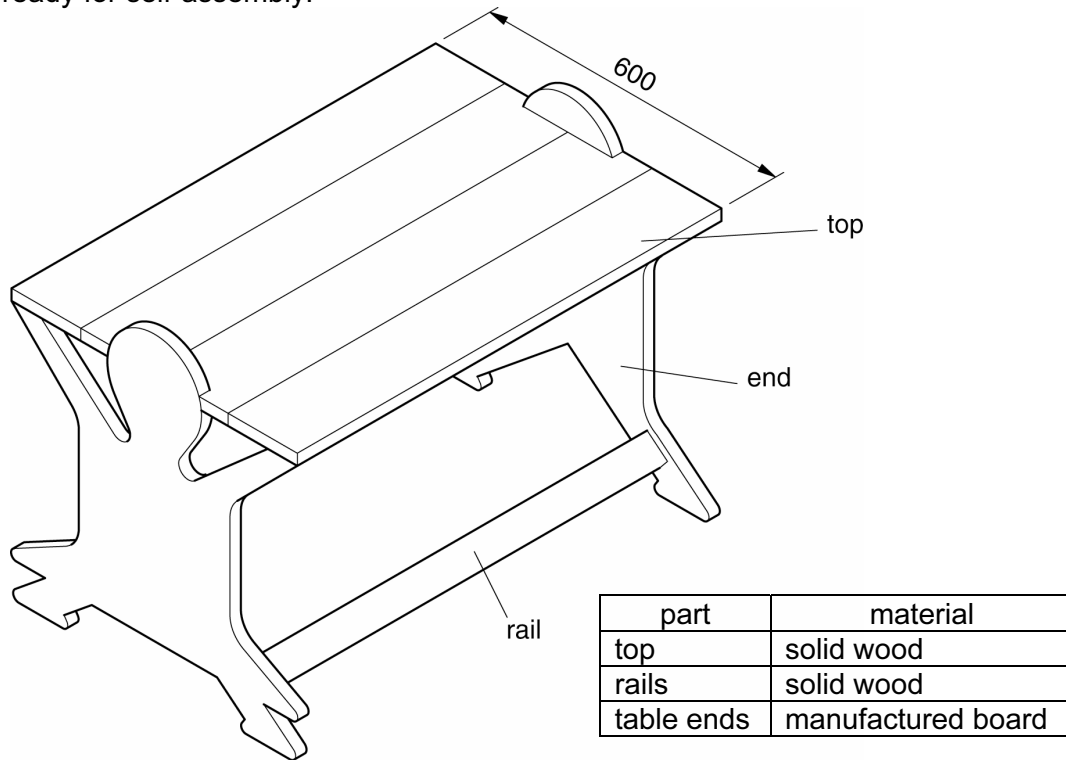

Fig. 3
- 11 Fig. 3 shows a table to be used in a children’s library. The table is supplied as flat pack ready for self-assembly.